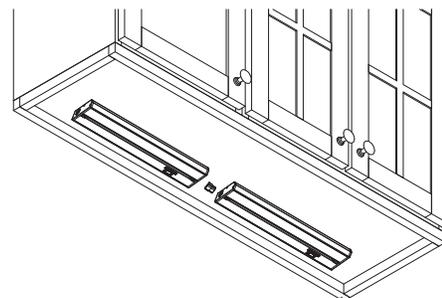

Figure 18
2. The End to End connector is fitted with a distinct cord connector plug at each end and will only connect one way. Try inserting one end of the End-to-End connector into the power port of the new fixture, if that fails try the other end of the End-to-End connector. Do not try to force the plug into the port (Fig. 18).